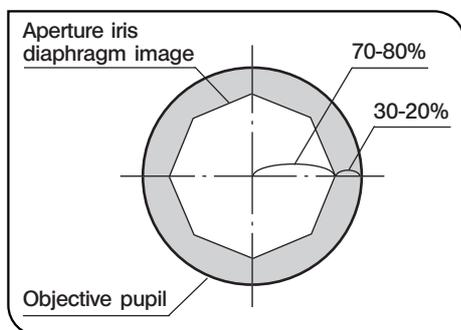

Fig. 31
Aperture Iris Diaphragm (Figs. 31 & 32)
- Since the contrast of microscope specimens is ordinarily low, setting the condenser aperture iris diaphragm to between 70 and 80% of the N.A. ② of the objective in use is usually recommended. Adjust the ratio by removing the eyepiece and looking into the eyepiece sleeve while adjusting the aperture iris diaphragm ring ① until the image shown in Fig. 31 is seen.